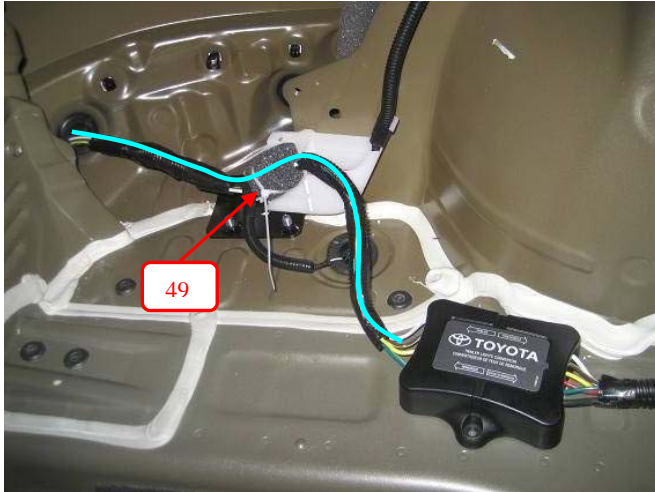

Figure 4-4
- ii) Secure the padded parts to vehicle wire channel with wire tie as shown in Figure 4-4.
8" WIRE TIE x 1 (Figure 4-4)